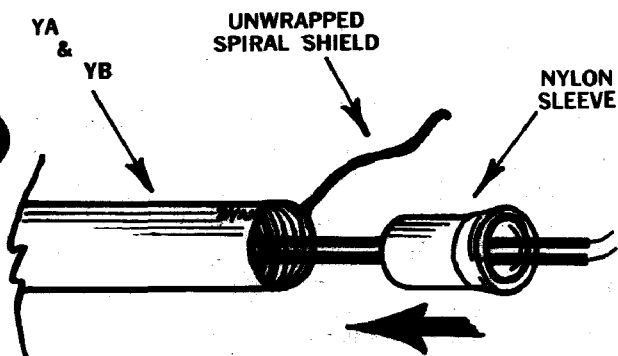

FIGURE 9
- BF6-12. Connect a 4½" blue wire to Pin 2, P3 (S).
- BF6-13. Connect a 6" green/white wire to Pin 11, SS3 (S).
- BF6-14. Connect a 4" yellow/white wire to Pin 5, SS3 (S).
- BF6-15. Connect a 4¾" green wire to Pin 10, SW3 (S).
- BF6-16. Place a 3¼" piece of black conductive cable (ESS)* over a 4¼" black wire and a 4½" green wire. At one end unwrap about ¾" of the spiral shield. Slide a nylon sleeve over the wires at both ends of the cable. See Fig. 9. At the end without the unwrapped shield, connect the black wire to Pin 1, D1B and the green wire to Pin 8, SS3 (S). DO NOT CONNECT OTHER ENDS.
- BF6-17. Place a 3¼" piece of black conductive cable (ESS)* over a 4½" black wire and a 5½" yellow wire. At one end unwrap about ¾" of the spiral shield. Insert nylon sleeves as in BF6-16. At the end without the unwrapped shield, connect the black wire to Pin 1, D1A and the yellow wire to Pin 2, SS3 (S). DO NOT CONNECT OTHER ENDS.
- BR3-1. Place a 13½" piece of black conductive cable (ESS) over a 15½" green wire, a 16" yellow wire, and a 15½" black wire. At one end unwrap about 1" of the metal shield. Slide a nylon sleeve over the wires at both ends into the cable. See Fig. 9. Connect the black wire at the end without the unwrapped shield, to Pin 4, J2 (S), the yellow wire to Pin 2, D2MB (S) and the green wire to Pin 3, J1 (S). DO NOT CONNECT OTHER ENDS AT THIS TIME.
- BR3-2. Place a 13" piece of black conductive cable (ESS) over a 15" green/white wire, a 15½" yellow/white wire and a 15" black/white wire. Unwrap the shield and insert nylon sleeves as in BR3-1. Connect the black/white wire to Pin 1, J2 (S), the yellow/white wire to Pin 1, D2MB (S) and the green/white wire to Pin 2, J1 (S).
- BR3-3. Place a 13¾" heavy black conductive vinyl cable (see page 7 for description) over a 17½" orange wire, a 16" green wire and a 16½" blue wire. Connect the orange wire at one end to Pin 3, J5 (S), the blue wire to Pin 3, J4 (S), the green wire to Pin 3, J3 (S) and the bare wire to Pin 4, J3 (S). DO NOT CONNECT OTHER ENDS.
- BR3-4. Place a 13¾" heavy white conductive vinyl cable over an 18¾" orange/white wire, a 17¾" blue/white wire and a 16¼" green/white wire. Connect the orange/white wire to Pin 2, J5 (S), the blue/white wire to Pin 2, J4 (S), the green/white wire to Pin 2, J3 (S) and the bare wire to Pin 1, J3 (S).
- BR3-5. Connect the insulated wire of a 17" blue mic lapel to Pin 5, J5 (S). Connect the bare wire at this end to Pin 4, J5 (S). DO NOT CONNECT OTHER END.
- BR3-6. Connect the insulated wire of a 24" yellow mic lapel to Pin 3, J6 (S). Connect the bare wire at this end to Pin 4, J6 (S).
- BR3-7. Connect the insulated wire of a 21" green mic lapel to Pin 2, J6 (S). Connect the bare wire at this end to Pin 1, J6 (S).